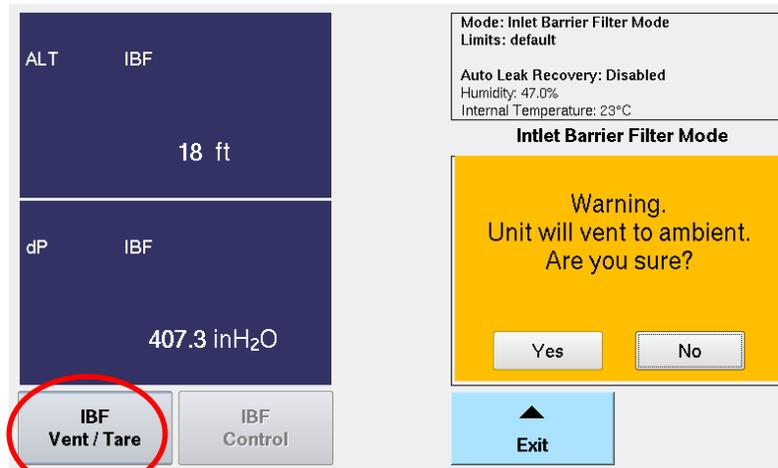

Figure F. 5 Warning Screen
8. Touch "IBF Vent/Tare". A warning screen appears with the prompt in Figure F. 5 below.